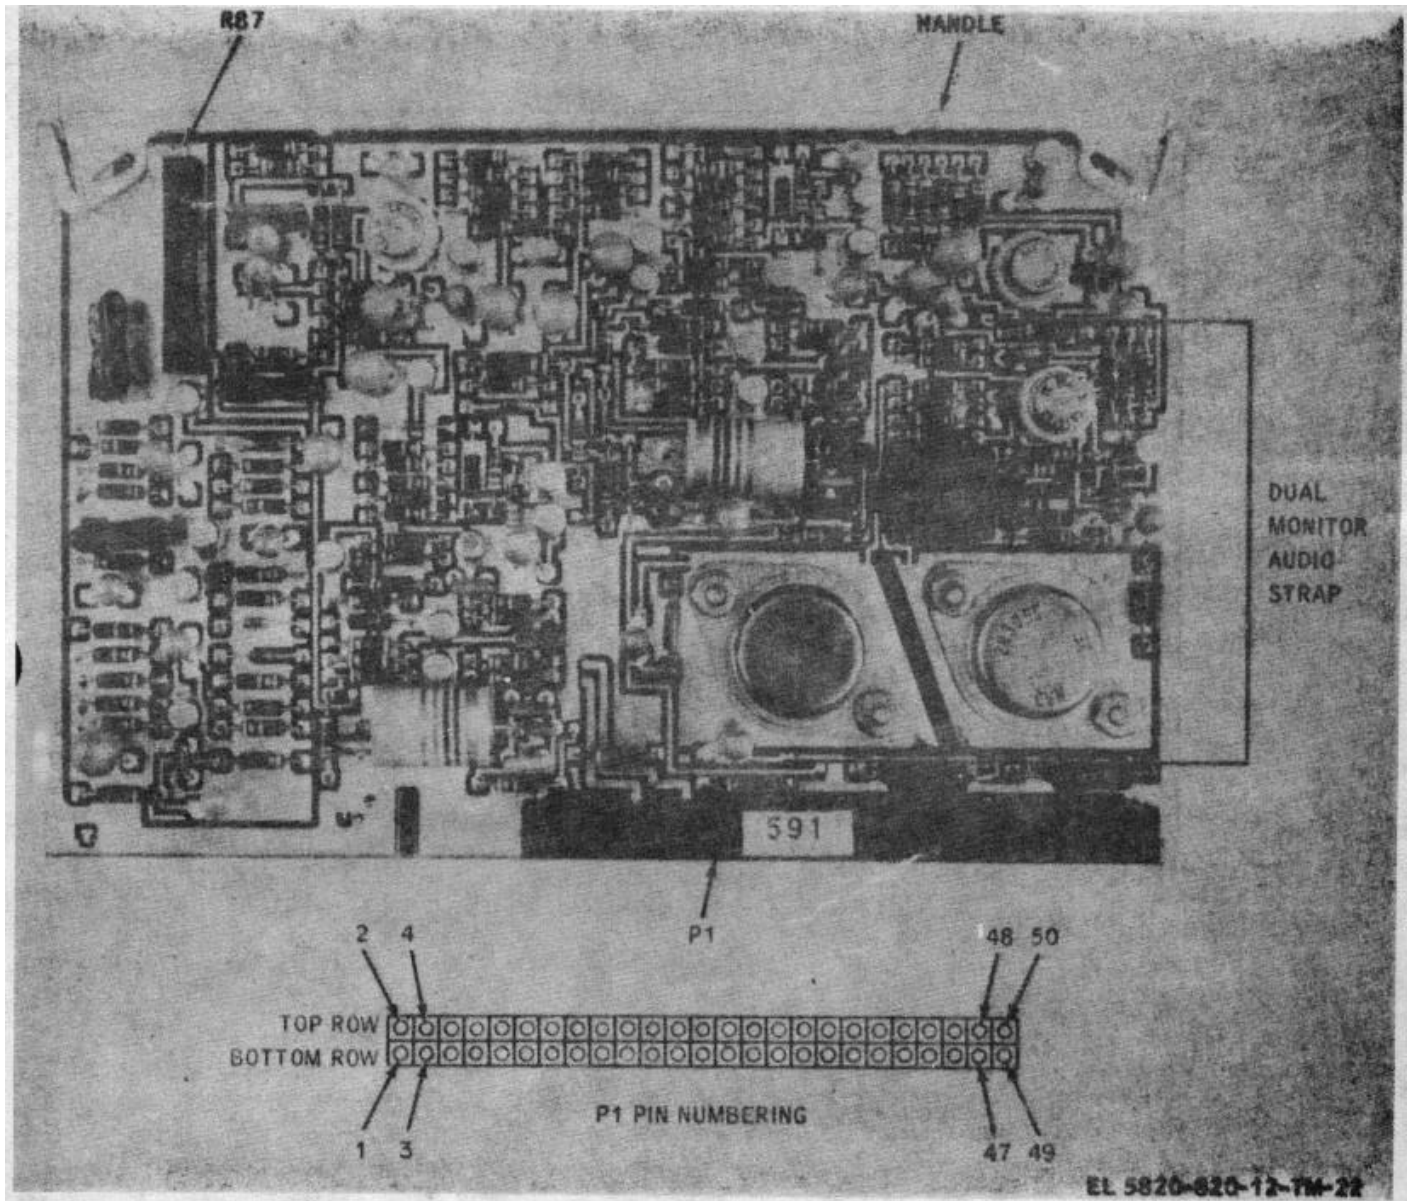

Figure 1-12. Audio/squelch card 6A5.
- (5) Audio/squelch card 6A5 (figure 1-12)